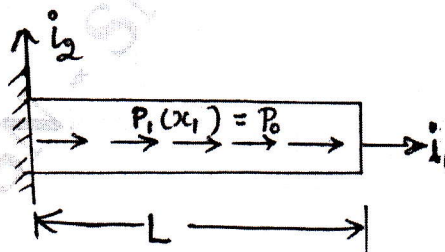

Fig.Q4(a)
- 4 a. Determine the displacement field and axial force for the beam shown in Fig.Q4(a).